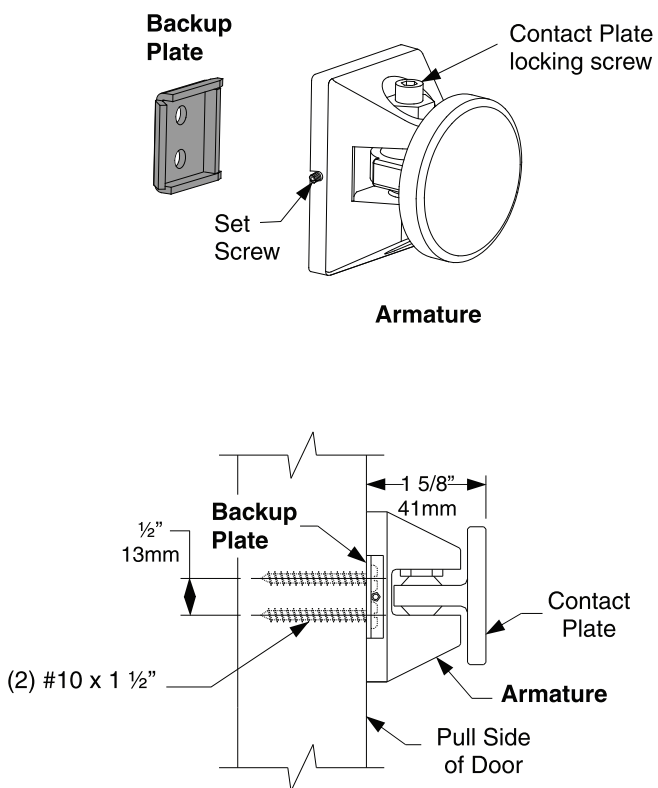

Figure 5
- 3d See Fig. 5 and 6. Determine if the armature will be mounted using the wood screw kit or the thru bolt kit. The thru bolt kit is recommended for $1\frac{3}{4}$ " hollow metal, hollow core, or composite-type wood doors. If using the wood screw kit, drill the center two holes on the template using a $\frac{1}{8}$ " bit by $1\frac{1}{4}$ " deep. If using the thru bolt kit, drill the outer two holes on the template using a $\frac{5}{16}$ " bit all the way through the door. Remove the template after the holes are drilled.